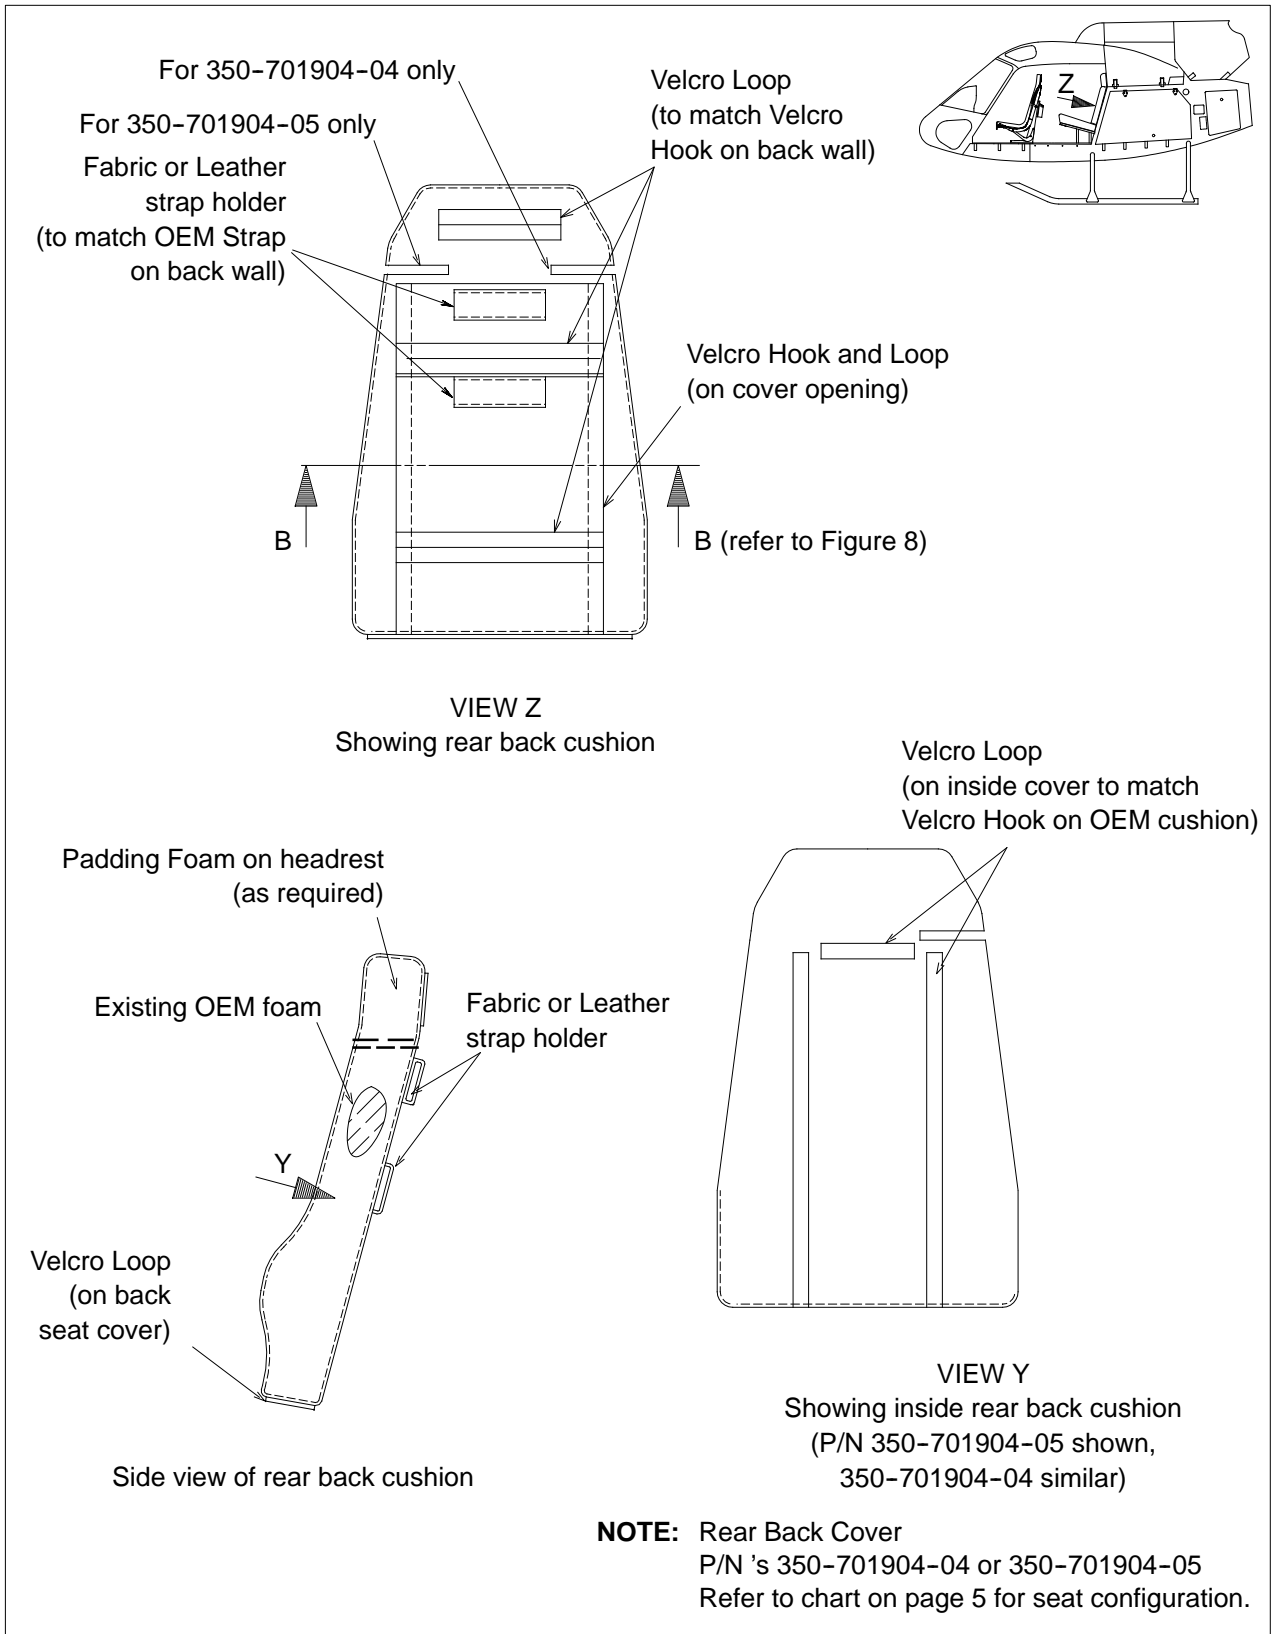

Figure 6 Rear Seat Cover Details (Sheet 1 of 2)
3) REAR BACK AND BOTTOM SEAT COVERS (Refer to Figure 6)